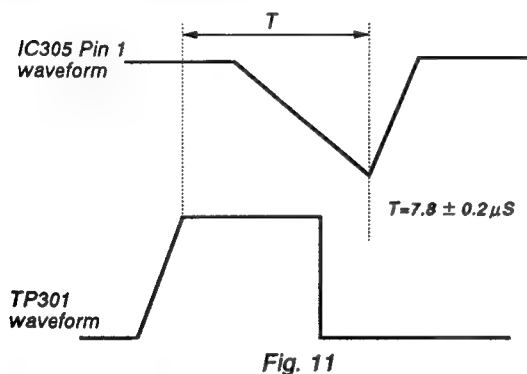

Fig. 11
4. Adjust **BGP WIDTH** so that the output waveform has the relationship shown in Fig. 11.